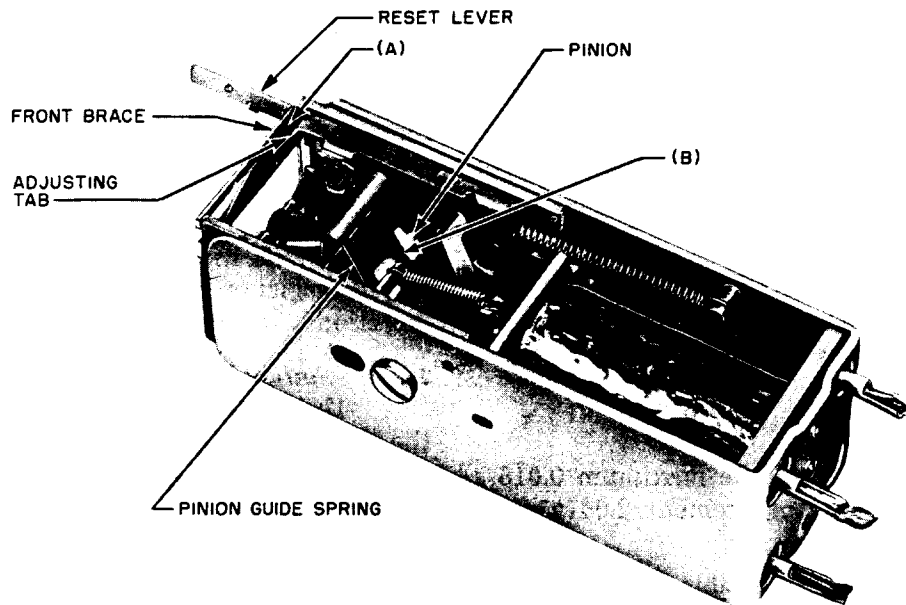

Fig. 3 - 15-Type Message Register With Reset Lever Operated
- (b) **Fig. 3 (A)**—With the reset lever fully operated, the clearance between the adjusting tab on the lever and the front brace shall be
(b) *Fig. 3 (B)* — With the reset lever operated, the pinion guide spring shall rest against the long teeth of the tens and hundreds pinions and any two alternate teeth of the units pinion.